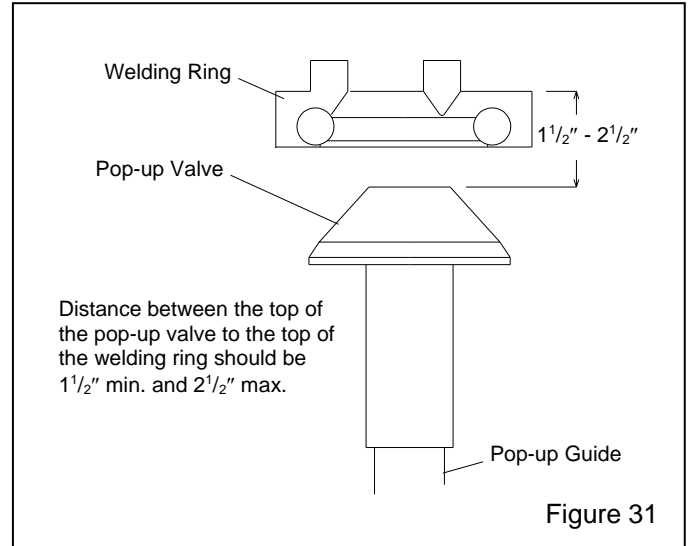

Figure 31
6.9.6 Refer to Figure 31 to check the pop-up height. If the pop-up sits too low, misalignment could occur when the pop-up comes up against the seal. If the pop-up sits too high, it will take longer for abrasive to flow through the opening when filling. Adjust the height by replacing the guide with one that is longer or shorter.